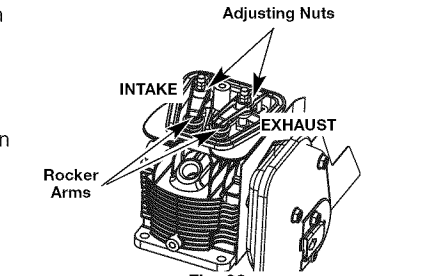

Fig. 30
7. Slide the feeler gauge between the rocker arm and the top of each valve stem. Measure the clearance between the valve stem and rocker arm (Fig. 30). Measure both the intake and exhaust valves.
The recommended clearance for both intake and exhaust is .003 – .006 in. (.076 – 0.152 mm). Use a standard automotive .005 in. (0.127 mm) feeler gauge. The feeler gauge should slide between the rocker arm and valve stem with a slight amount of resistance, without binding. See Figures 30 and 31.
- a. Turn the adjusting nut using a 5/16 inch (8 mm) wrench or nut driver (Fig. 30).